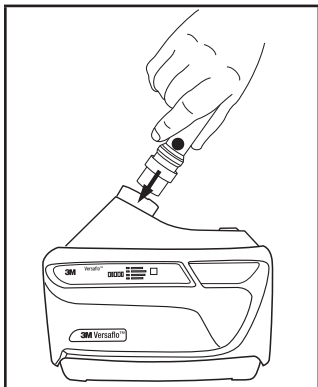

Fig. 16-1 – Attaching airflow indicator
- Insert the TR-971 into the outlet of the TR-600 motor/blower unit. If the breathing tube is in place, it must be removed to allow the airflow indicator to be inserted (Fig. 16-1).